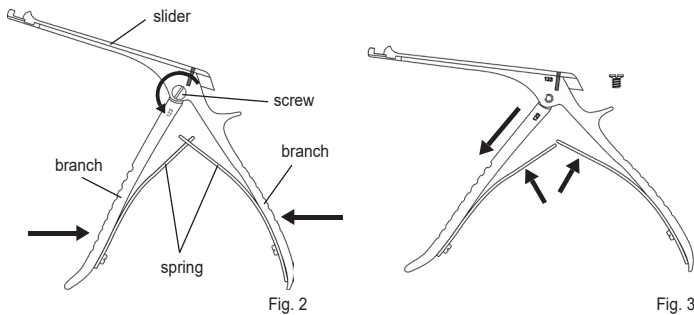

Fig. 2
- Slightly press the branches of the bone nibbling rongeur until the screw can be easily unscrewed counterclockwise. (fig. 2).